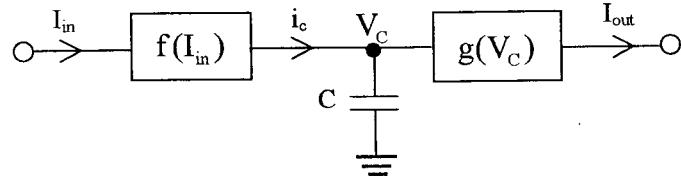

Figure 5
5. a) Figure 5 shows the general block diagram of a current-mode integrator where $f(\cdot)$ and $g(\cdot)$ represent non-linear functions. Derive an expression for the required relationship between $f(\cdot)$ and $g(\cdot)$ when the circuit of Figure 5 operates as an input-output linear integrator, stating any assumptions that you make. Provided that the function $g(\cdot)$ in Figure 5 is defined by $I_{out} = g(V_C) = \beta(V_C - V_{TH})^2$ (with β being a constant of appropriate dimensions), derive an expression for the function $f(\cdot)$ to implement an input-output linear integrator.